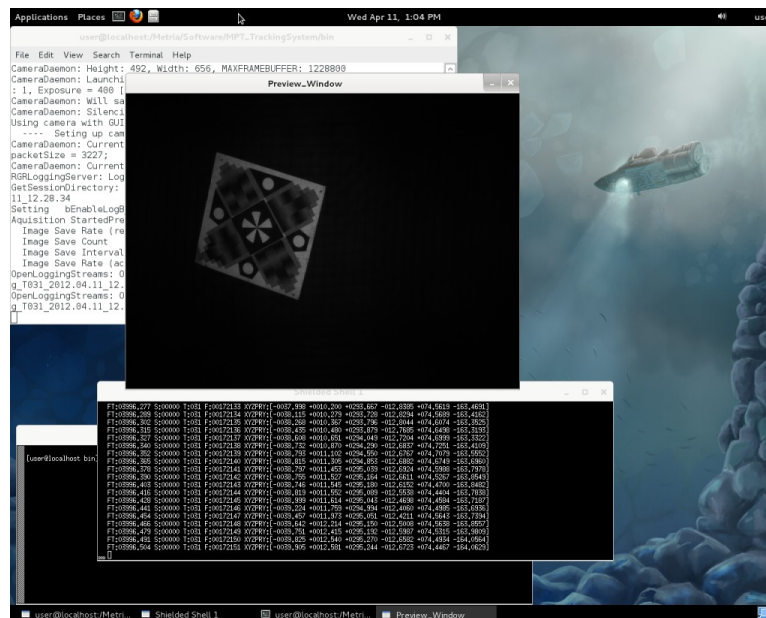

Figure 6: Screen shot of the Bolt-II computer upon booting. Program `TrackMPT_Marker` is automatically launched.
The MPT processing computer runs the Preempt_RT real-time variant of Fedora Linux. When it is booted, UNIX/Linux commands may be typed at a command prompt, and many operations are accessible through the drop-down menus accessed along the upper toolbar, seen in figure 6.
- On boot-up, the MPT processing computer will launch X-windows, the Linux graphical interface, and launch MPT processing in the default processing configuration. The default processing configuration is set in file `ConfigRunTime.xml` (described in chapter 4 and appendix 7.2). The desktop configuration at startup is seen in figure 6.
The `LaunchProtectedXterms` creates two shielded CPU cores and launches an `xterm` in each, creating two shielded core windows, as seen in figure 6. A processes started in one of these windows will be effectively the only process using the corresponding CPU core, providing reliable real-time performance.
- `TrackMPT_Marker` should now be running, as illustrated in figure 6.